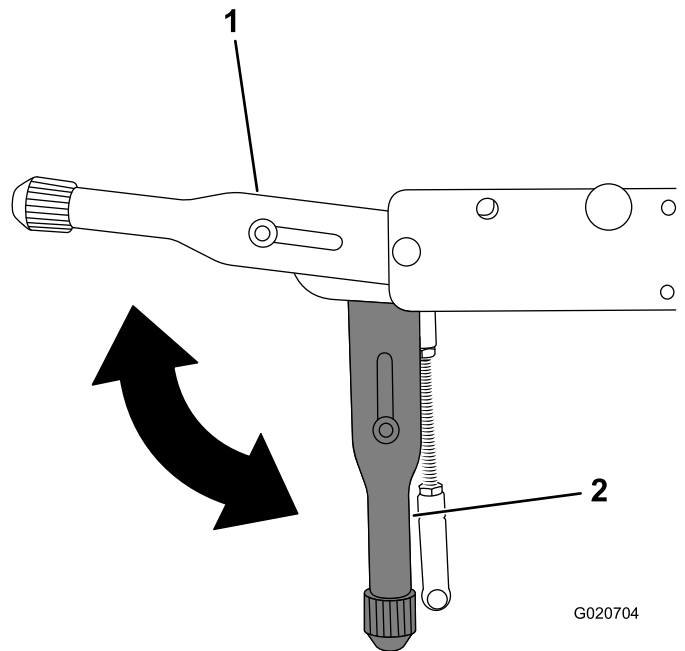

Figure 29
2. Pull the parking brake lever up to engage the brake and start the engine (Figure 29).
5. Push the parking brake lever down to disengage the brake (Figure 29).
6. Release the parking brake (Figure 29).
3. Disengage the parking brake (Figure 29).
2. Engage the parking brake (Figure 29).